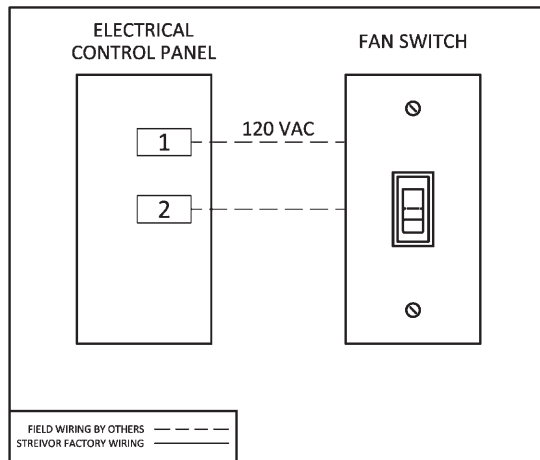

FIGURE 3: Fan Switch Wiring
- Connect the load terminal of the remote fan switch to terminal block 2 in the ECP (Figure 3).